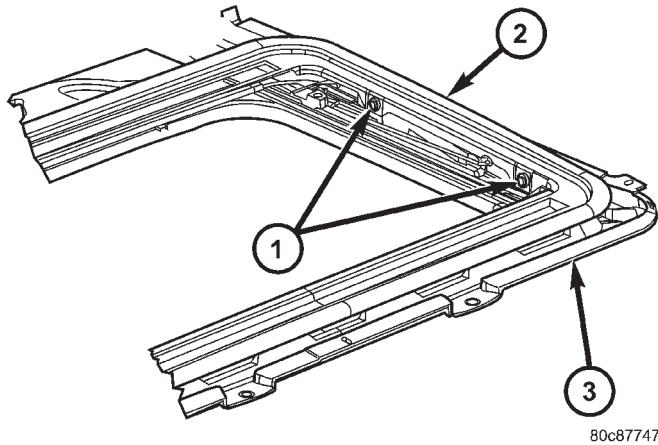

Fig. 1 GLASS PANEL
- (1) Slide sunshade rearward to the open position.
- (2) Move the glass panel to the closed position.
- (3) Remove the four glass panel screws (Fig. 1).
- (4) Lift off glass panel and remove from vehicle.